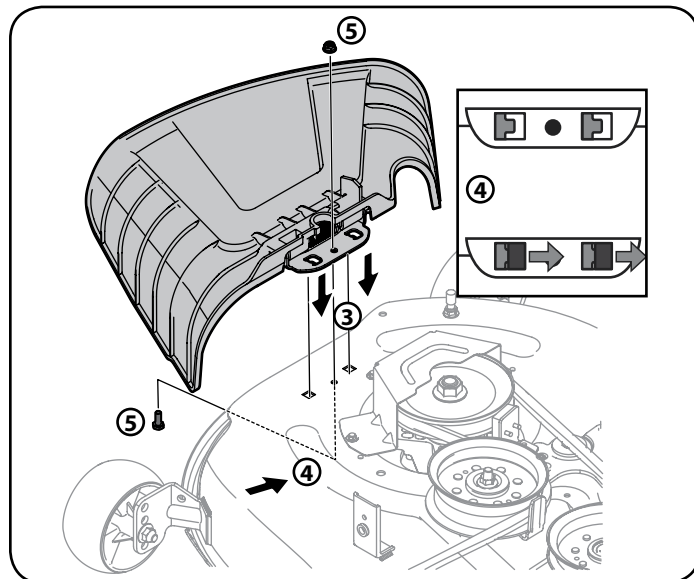

Figure 6
- Place the chute deflector on the deck, be sure to insert the tabs on the chute deflector into the holes on the deck. See Figure 6.
4. When the tabs are installed in the deck, slide the chute deflector toward the rear of the riding mower until the bolt hole in the chute deflector aligns with the hole in the deck. See Figure 6.
5. Secure the chute deflector in place with the flange lock nut and hex screw removed in step 2. Tighten to 102-124 in-lbs. See Figure 6.